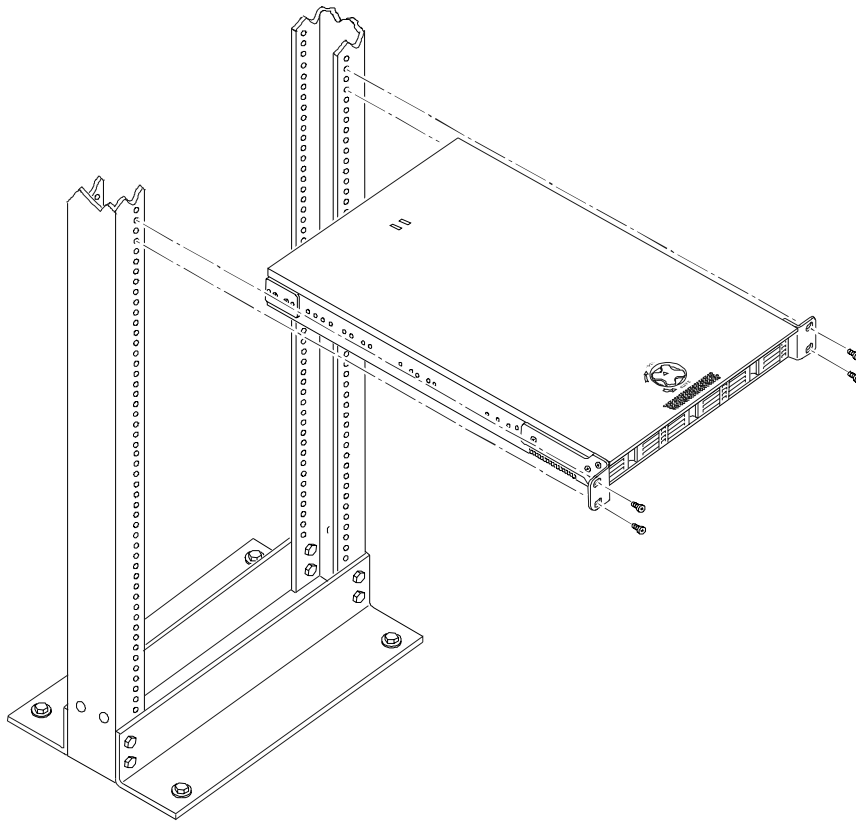

Figure 7-6. Flush Mounting in the Rack
2. Move the center of the Netserver beyond the face (or front) of the two columns. See Figure 7-6.
3. Position the Netserver's two flush mount brackets over the holes (1st & 3rd) on the face of the two columns. See Figure 7-6.